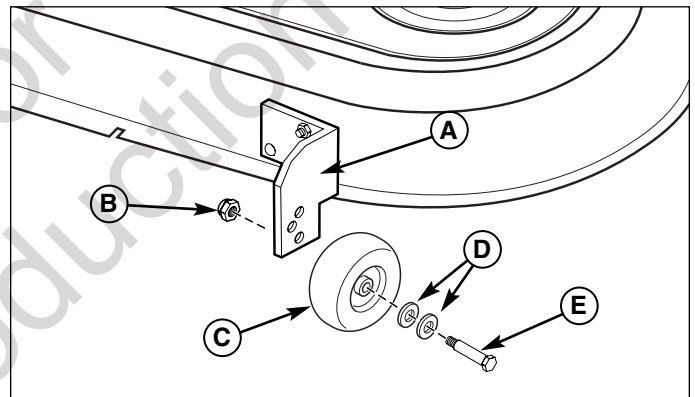

Figure 48. Fixed Bracket Gauge Wheel Adjustment
1. Remove the locknut (B, Figure 48), gauge wheel (C), washers (D), and shoulder bolt (E). Change position of gauge wheel to desired height.
2. Insert shoulder bolt (E) through washers (D) gauge wheel (C), and gauge wheel bracket (A). Secure with locknut (B). Repeat Steps 1 & 2 for all gauge wheels.